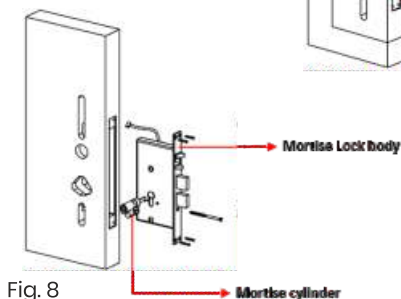

Fig. 8
- Place the mortise lock body in to the cavity and fix it with its respective screws. Ref Fig. 8.
- Insert the Mortise cylinder through Mortise lock body and fix it with its respective screws. Ref Fig. 8.